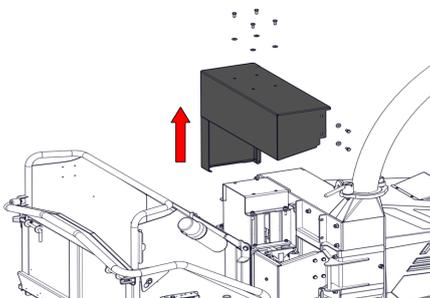

Figure 27 - Removing the Roller Box Guard
2. Unbolt and remove the roller box guard (Figure 27).